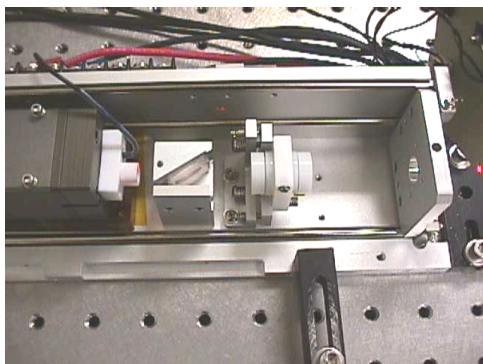

FIGURE 13
- **Adjust** the one (1) #4-40 x $\frac{1}{2}$ SHD screw, one (1) #4-40 x $\frac{1}{2}$ PPH, one (1) #4 split lock washer, and two (2) #4 big OD flat washers.
- **See** Figures 13 and 14.